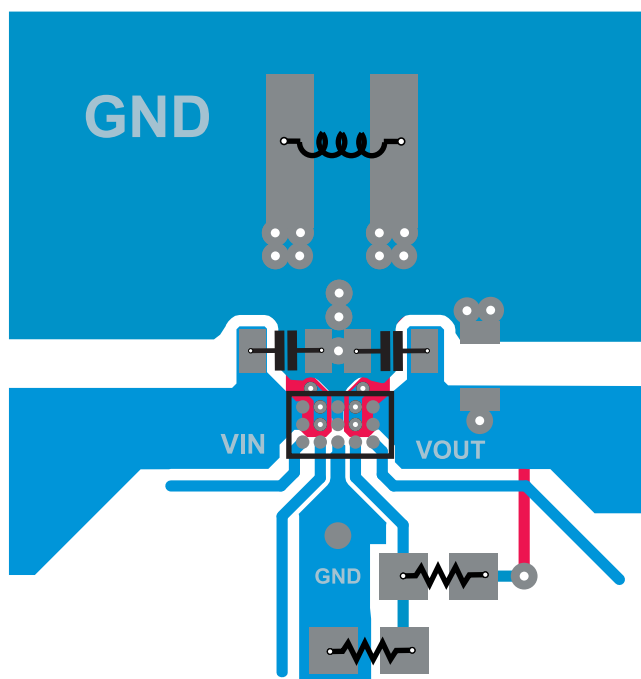

Figure 37. TPS63805 Example Layout
- Separate AGND and PGND: Do not connect AGND and PGND directly at the IC! See Figure 37 as an example.